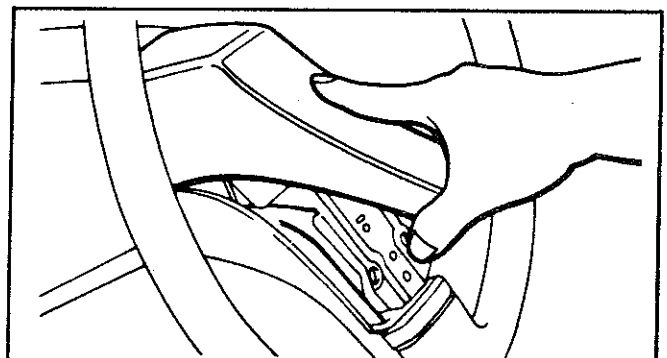

Fig. 3—Removing the horn pad
- (2) Remove the horn pad by pulling up on the pad (see fig. 3) on two door models and four door models with Sports Pack option. Remove screws on underside of steering wheel spokes on other models and remove horn pad. Remove the steering wheel retaining nut and remove the steering wheel using Special Tool No. E19M10A.